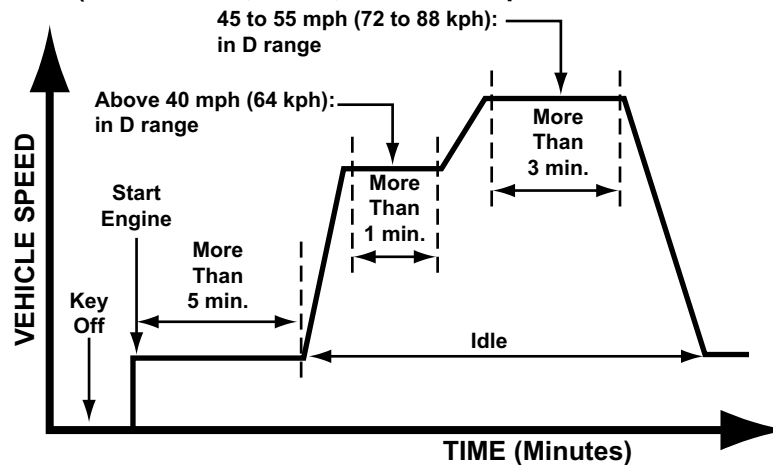

Figure MA000-36
3. Drive vehicle as shown in Figure MA000-36.